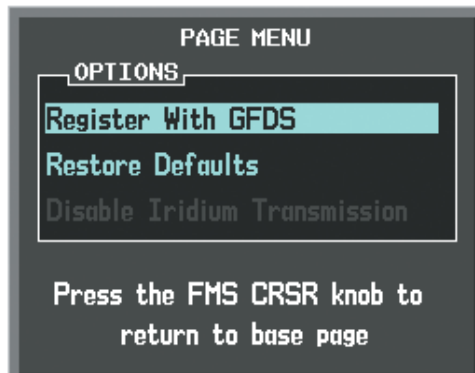

Figure 8-74 Select Register With GFDS
- 6) Press the **MENU** Key. The Page Menu window is now displayed as seen in Figure 8-74.